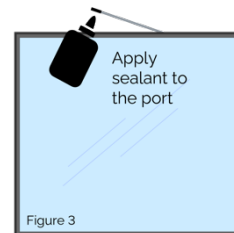

Figure 3
2. **SEAL:** Place the IGU in a vertical position and apply the sealant on the capillary tube as shown in Figure 3. The tube must not be sealed until it's at the final project site.